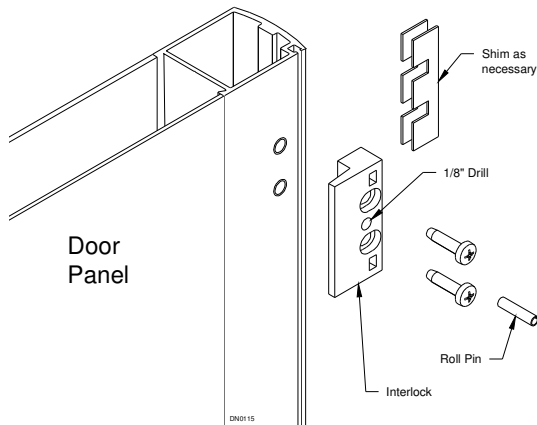

Figure 34
3. Loosen mounting screws and slide interlocks closer to edge of stile. Slide shims under interlocks as needed to ensure proper engagement (See Figure 34). It may be necessary to remove some brush from the back side of interlock with a pair of scissors.